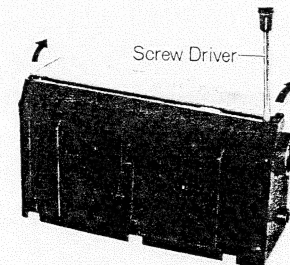

Fig. 7
4. Remove the panel in the direction of arrows, as illustrated in fig. 7.